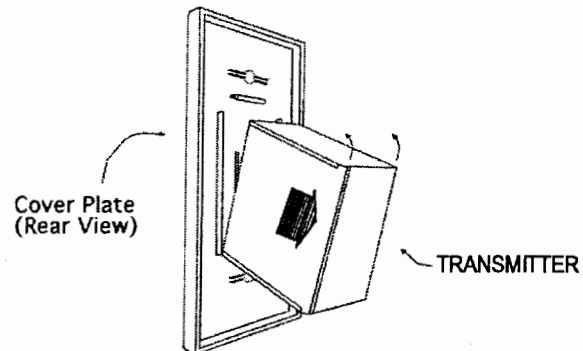

Fig. 4 Securing transmitter to face plate.
**Step 3:** Install the (4) AA batteries into the transmitter.
**Step 4:** Secure the transmitter into the face plate by snapping it into place. See fig 4.